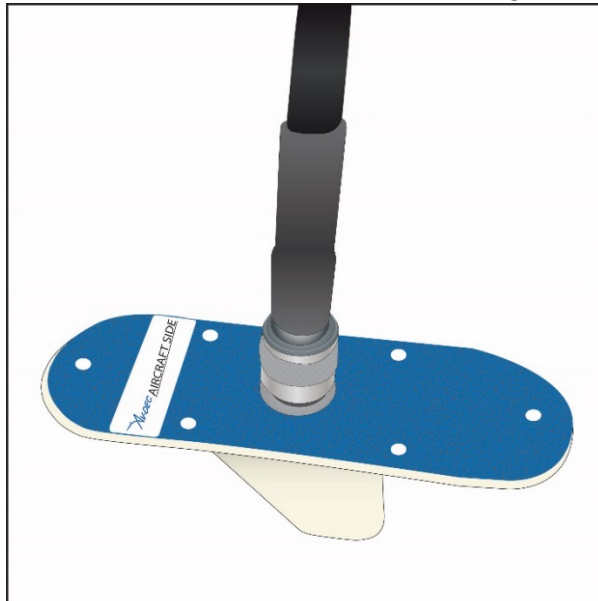

Figure 2
- 6) Connect aircraft coax cable to antenna. (Figure 2)